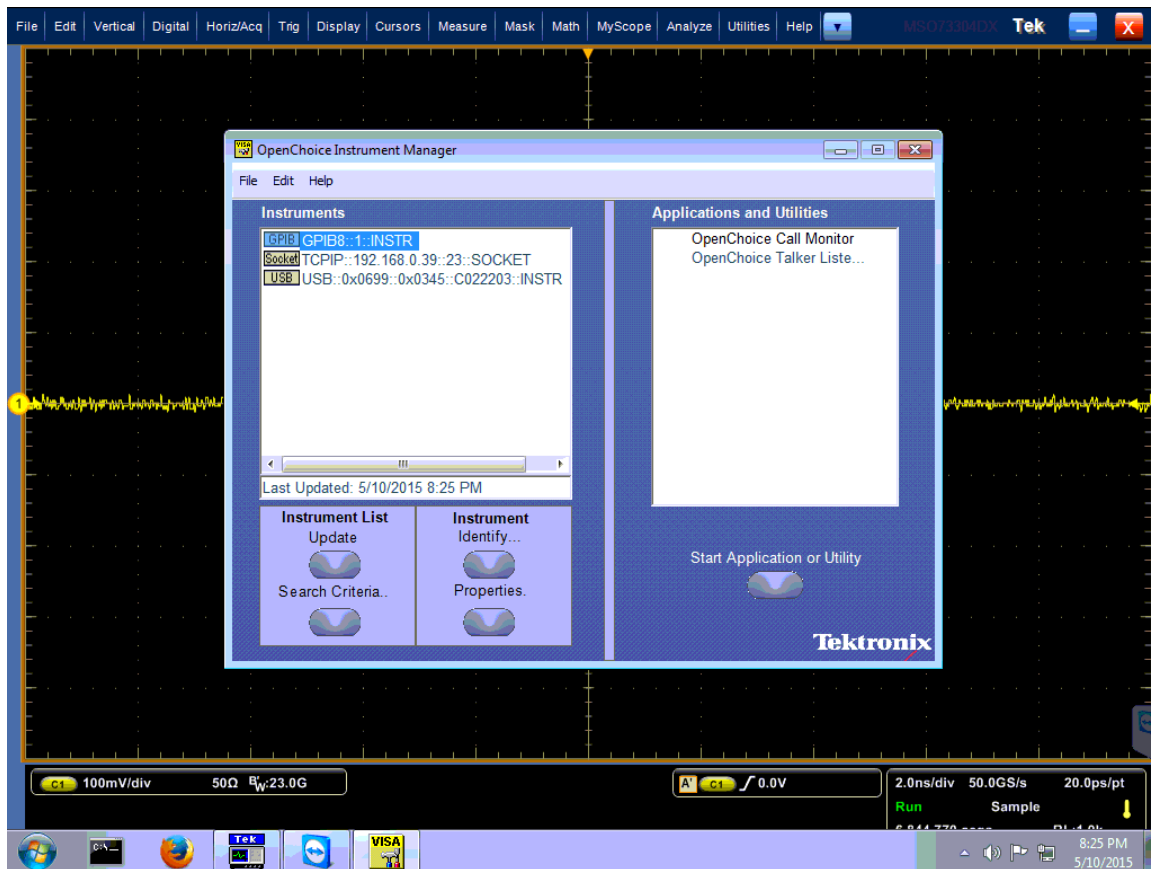

FIGURE 8. INSTRUMENT LIST IN INSTRUMENT MANAGER
9. Instrument Manager will display all the connected instruments on its list, as in Figure 8: